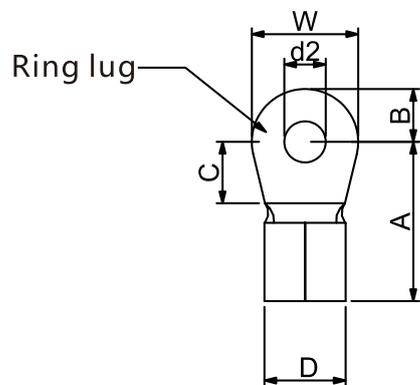

Figure 4-19
- Use Figure 4-19 to choose terminal wire size.